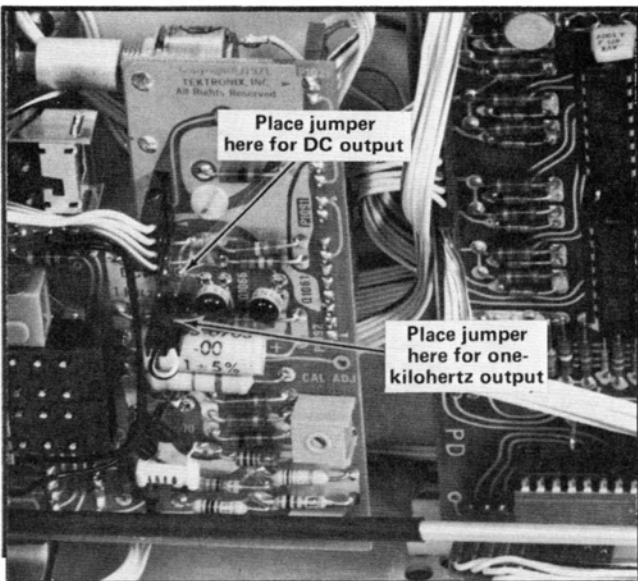

Fig. 1-5. Locations of adjustment and jumper on Calibrator circuit board.
**Waveshape.** The square-wave output signal of the calibrator can be used as a reference waveshape when checking or adjusting the compensation of passive, high-resistance probes. Since the square-wave output from the calibrator has a flat top, any distortion in the displayed waveform is due to the probe compensation. DC voltage output is also available by changing a jumper on the calibrator board; see Fig. 1-5.